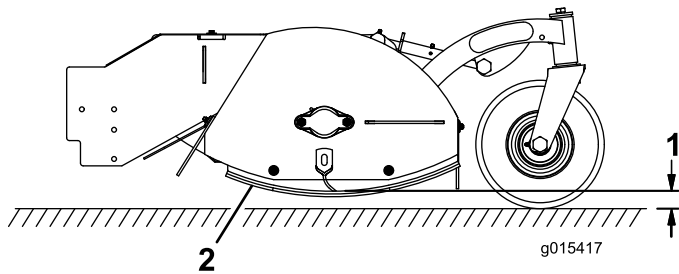

Figure 3
- Loosen the two bolts and nuts securing an anti-scalp skid and raise or lower it so that they are lower than the blades but not touching the ground (Figure 3).